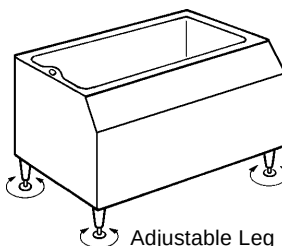

Fig. 4
2) Position the Storage Bin in the selected permanent position, and level it in both the left-to-right and front-to-rear directions. See Fig. 4.